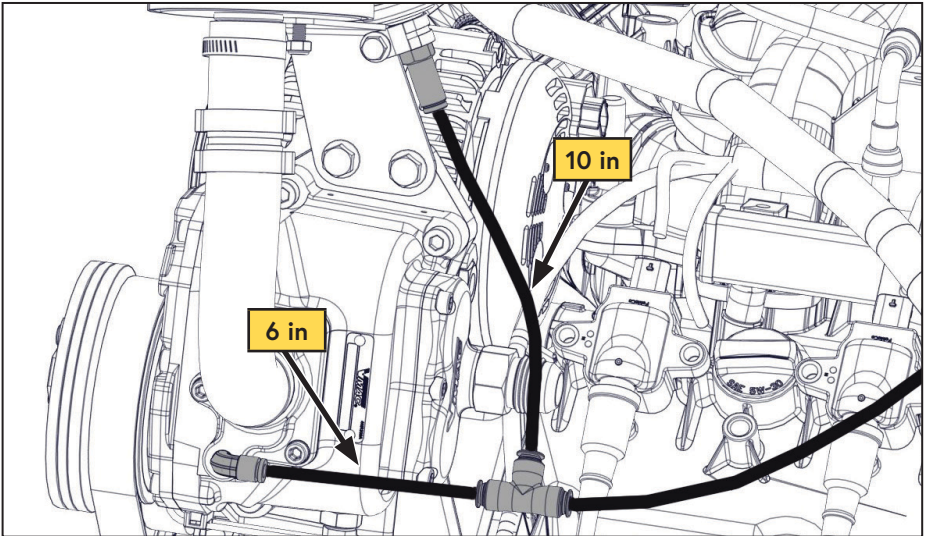

Figure 20 — Connect PTFE tubes
- Connect the 1/4 in PTFE scavenge tubes between the compressor, pressure switch, and Tee union (Figure 20).